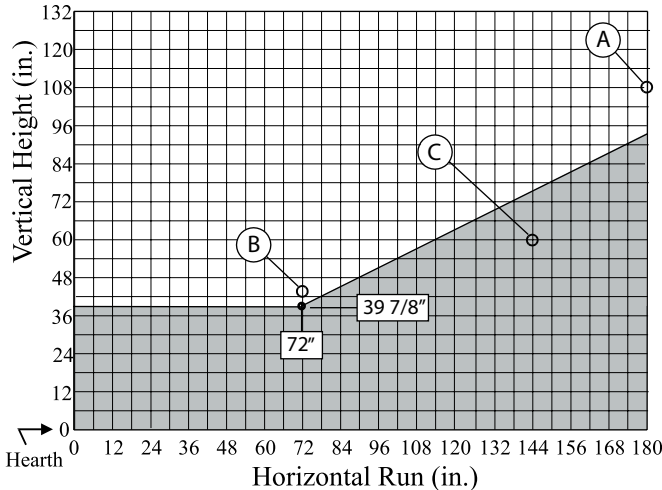
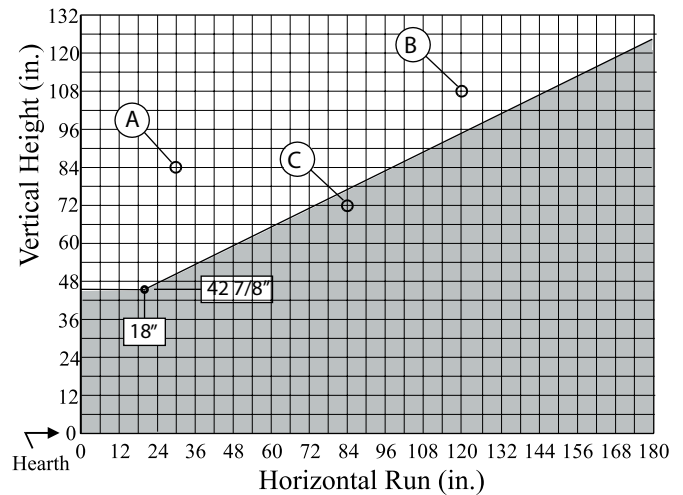

Figure 8. B34-DV-2 Top Vent Venting Graph
Figure 8a. B38-DV-2 Top Vent Venting Graph
Measure the vertical height from the fireplace hearth to the centre of the termination and the horizontal run from the fireplace flue collar to the wall flange of the termination. Plot on the Venting Graph (Fig. 8) or (Fig.8a) with an 'X'.
**NOTES:** All dimension lengths for vertical or horizontal runs are measured from centre of the vent pipe. Venting runs *must* fall within the limits set by the venting graph (Fig 8 or 8a).